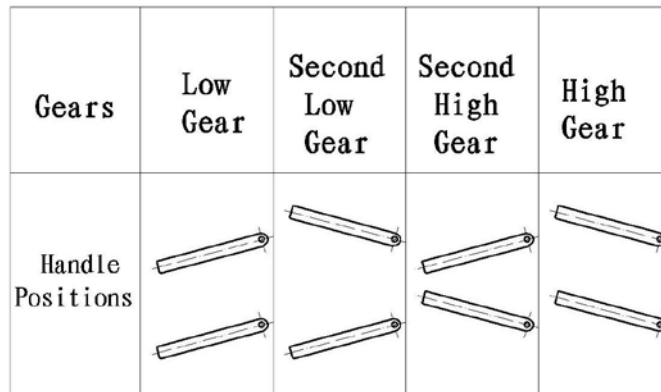

Fig. 1
3. Be familiar with the operation of shifting handle (various gears of shifting handle are shown in Figure 1):